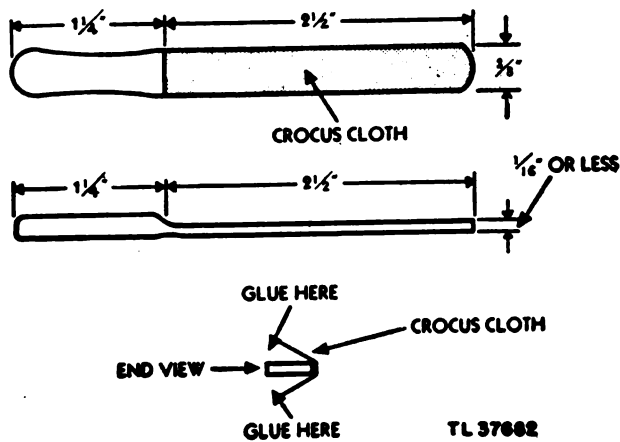

Figure 2. Crocus-cloth stick.
(1) Cut a piece of wood to the size and shape as shown on figure 2.
(2) Cement the flat area and cover with a piece of crocus cloth.
(3) Place in a vise or other clamping device until the cement hardens.
(4) Cut off overlapping piece of crocus cloth.